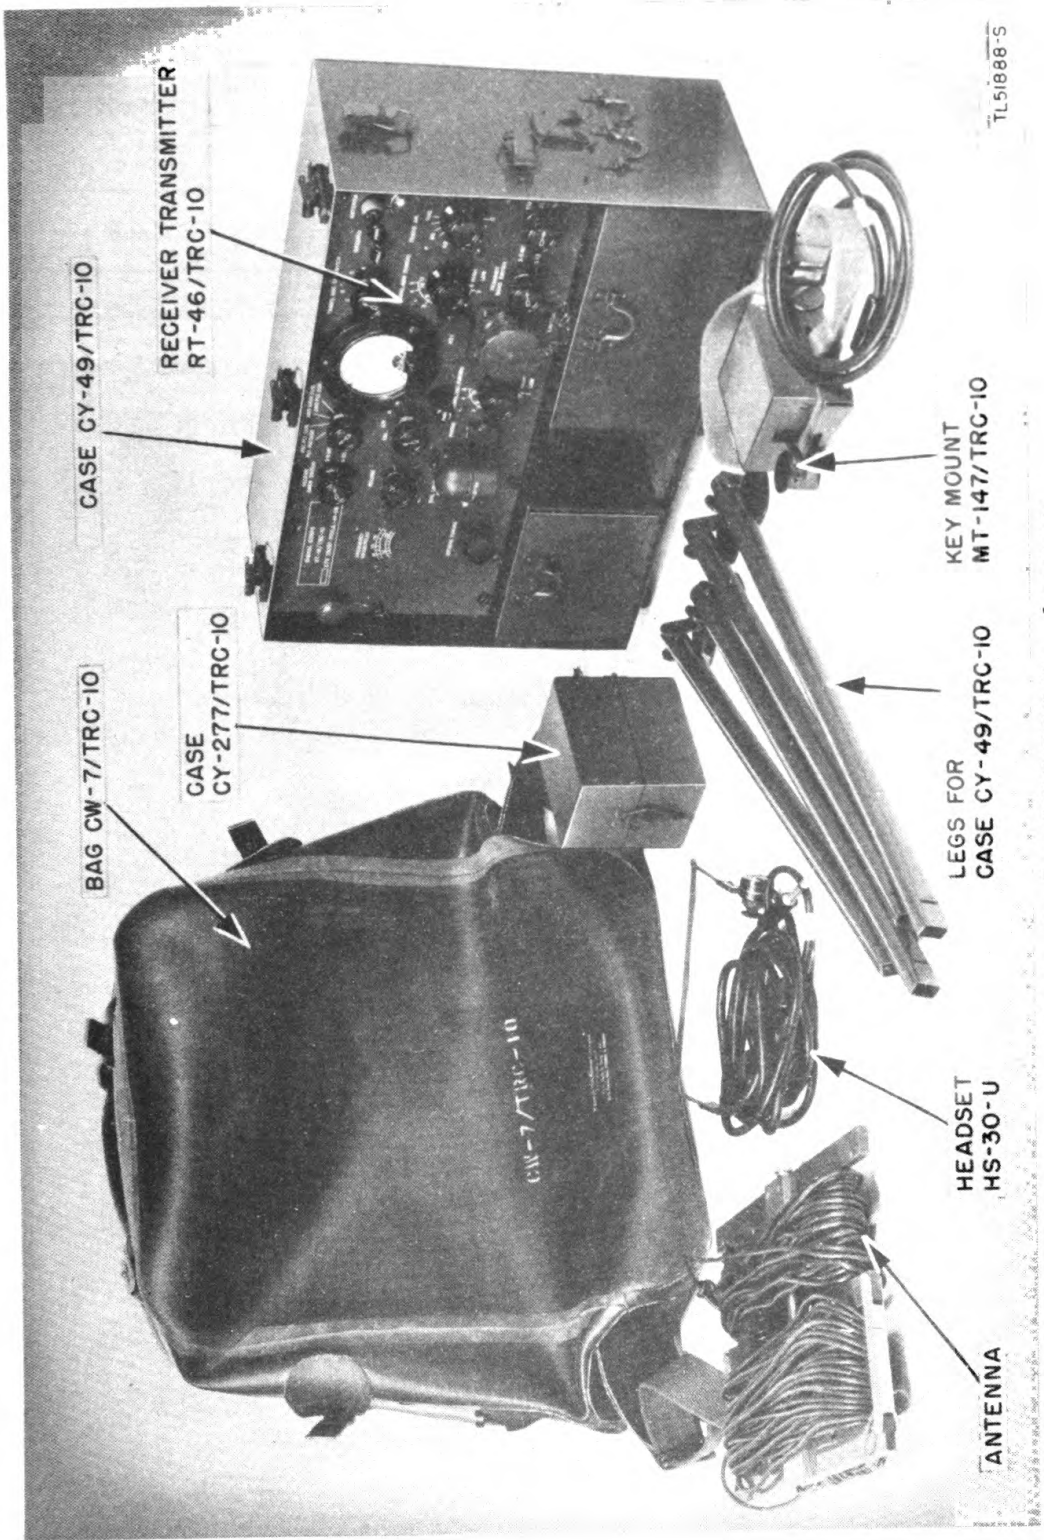

Figure 10. Bag CW-7/TRC-10 and contents.
(1) *Bag CW-7/TRC-10 (fig. 10).*